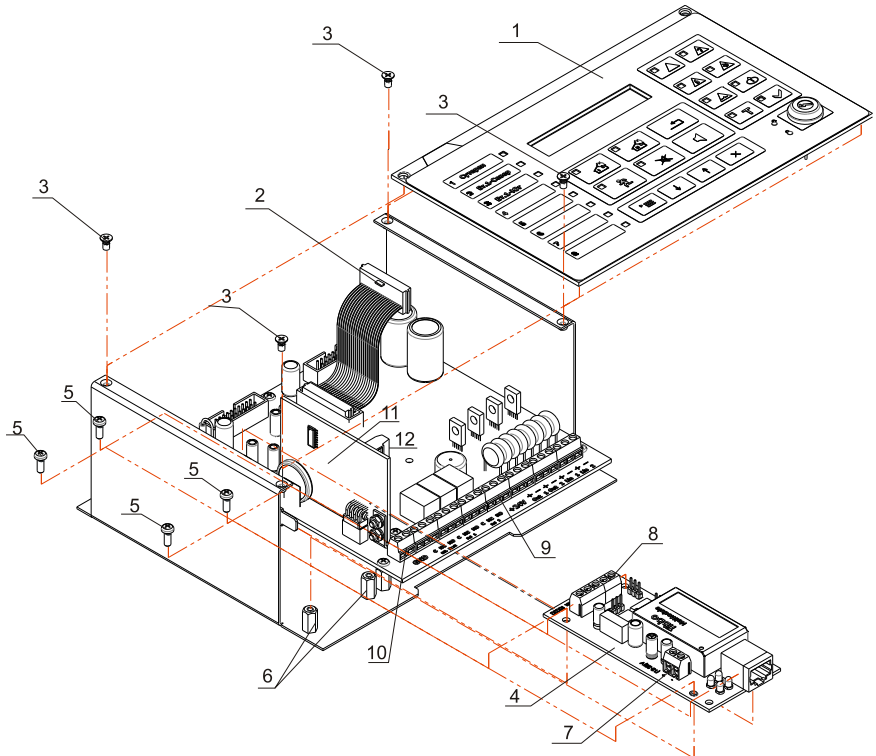

Fig.5
2.2.1.3. Dismount the front site of the panel (pos.1, fig.5) by unscrewing the four screws (pos.3, fig.5).
2.2.1.4. Release the coupling of the ribbon cable (see position 2, Fig.5) from the front panel.
2.2.1.5. Use screws (pos.5, fig.5), to mount the LAN module (pos.4, fig.5) on the 4 remote sleeves (pos.6, fig.5).
2.2.1.6. Join the power supply of the module (pos.7, fig.5) to terminals "+24V" and "GND" (pos.9, pos.10, fig.5) of the Control Panel.
2.2.1.7. On two-wire line connect terminals A and B, the LAN module (pos.8, fig.5), with terminals A and B of Module RS232/485 (pos.11, Fig.5) of the Control Panel.